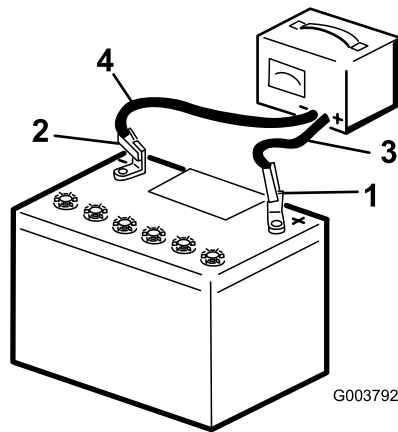

Figure 32
3. Charge the battery for 10 to 15 minutes at 25 to 30 amps or 30 minutes at 4 to 6 amps (Figure 32). Do not overcharge the battery.
4. When the battery is fully charged, unplug the charger from the electrical outlet, then disconnect the charger leads from the battery posts (Figure 32).